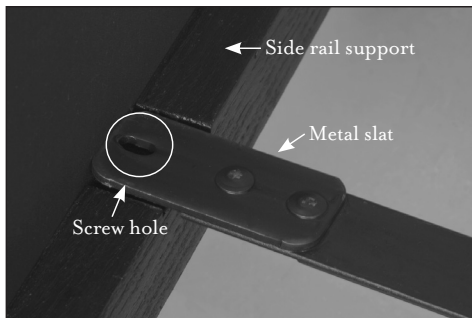

FIGURE 2
STEP 3: Adjust the width of the 3 metal slats so they reach both notched areas of the side rails, as shown in FIGURE 2.